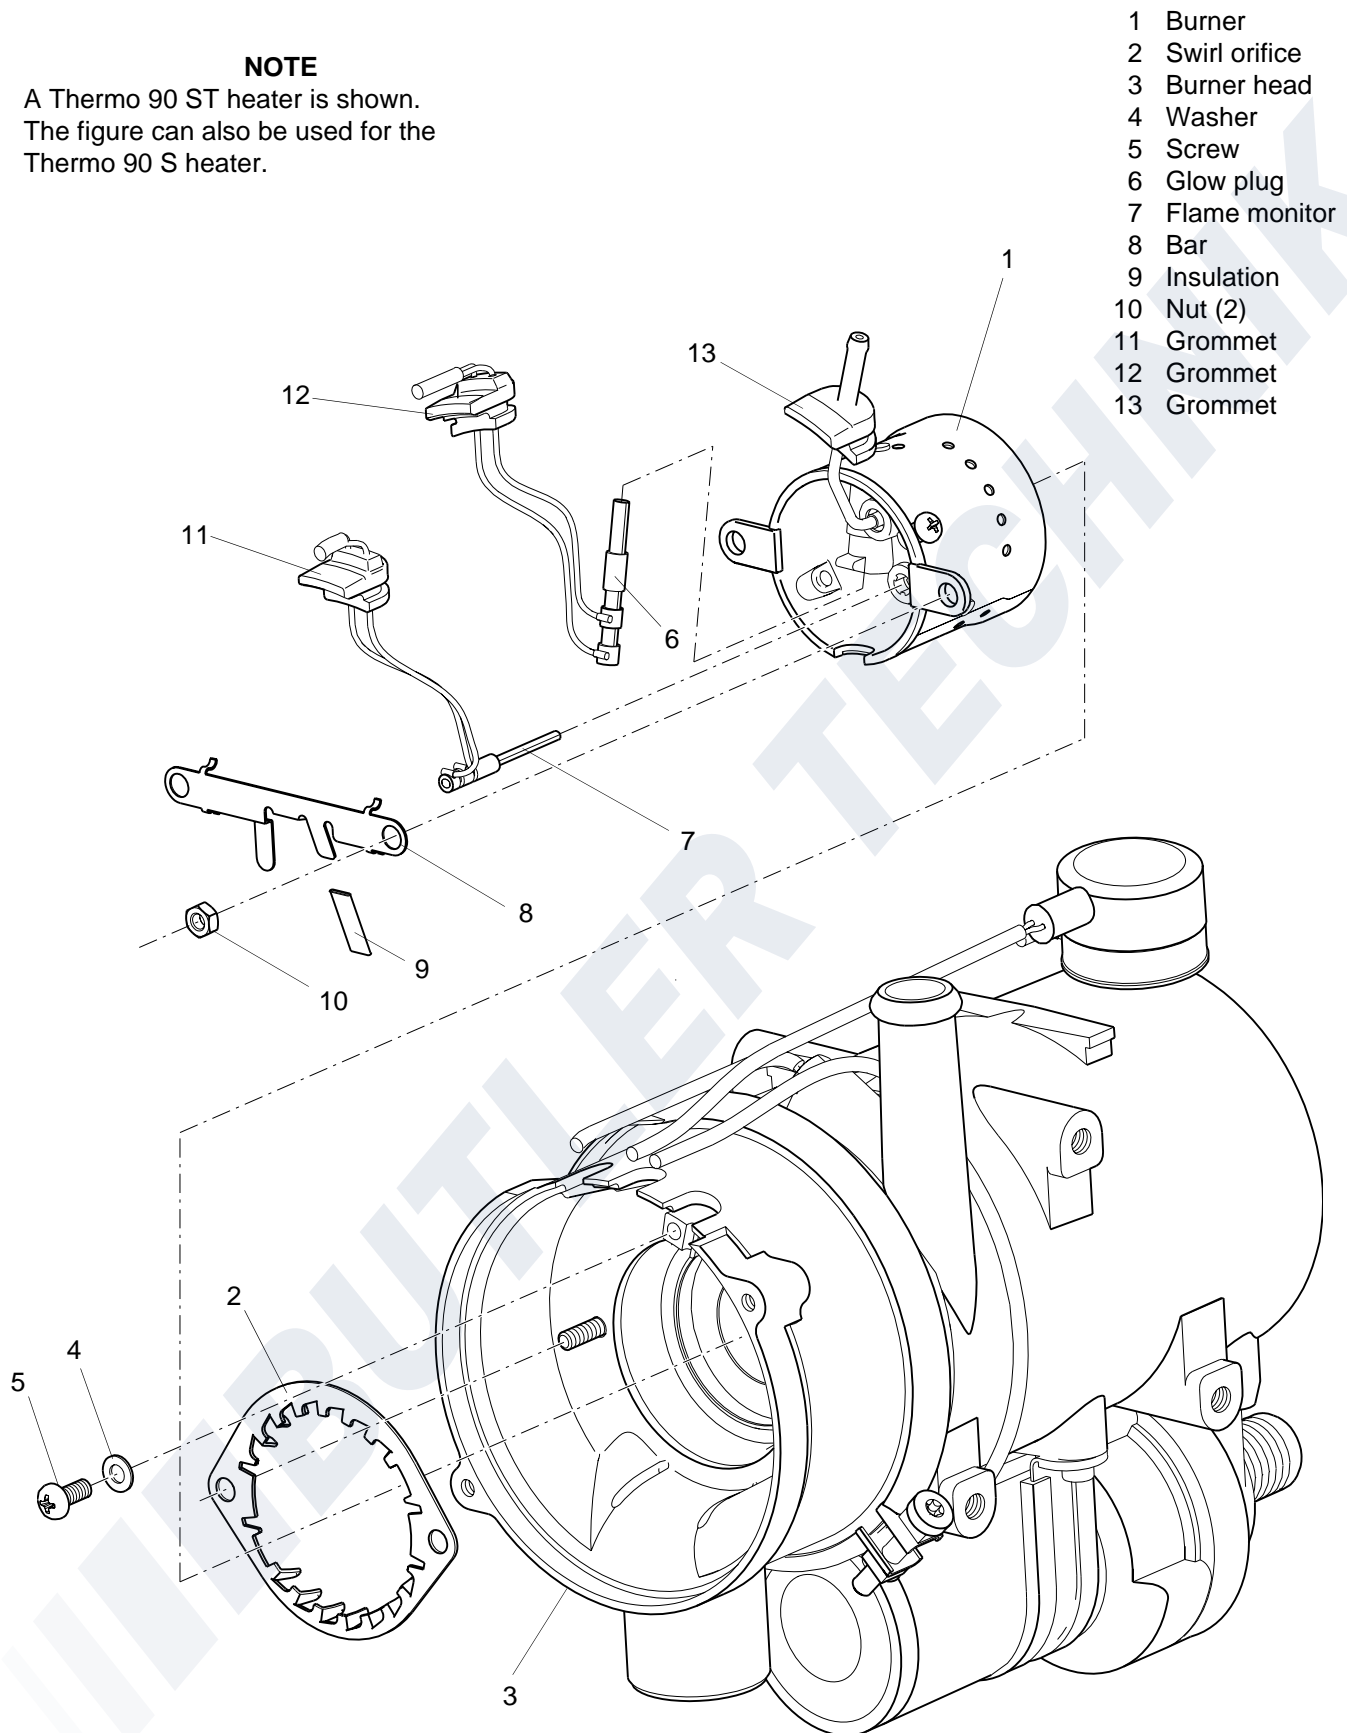

Fig. 905 Changing the burner, flame monitor and glow plug
3. Remove the screw (5, Fig. 905) and washer (4).
4. Remove the nuts (10) and pull off the bar (8).
5. Pull the grommets (11 and 12) out of the slots in the housing of the combustion pipe (3).
6. Pull the grommet (13) and burner (1) out of the burner head and remove with the swirl orifice (2).
7. Pull the flame monitor (7) and glow plug (6) from the burner (1) and remove.
1. Place the swirl orifice (2, Fig. 905) onto the burner (1).
2. Carefully insert the flame monitor (7) and glow plug (6) into the burner up to the stop and push the grommets (11 and 12) into the slots in the housing of the burner pipe (3).
3. Insert the burner (1) and grommet (13) into the burner head (3).